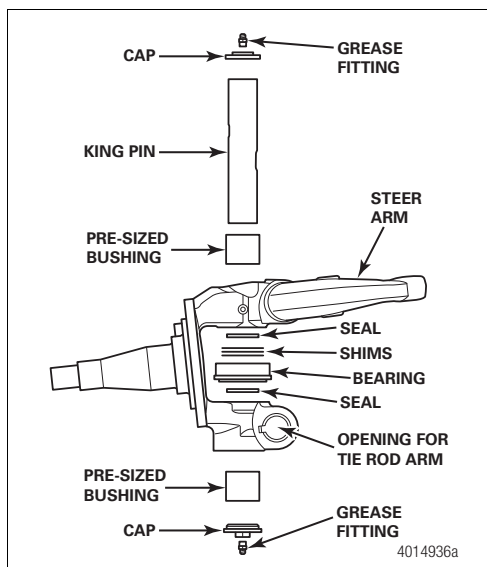
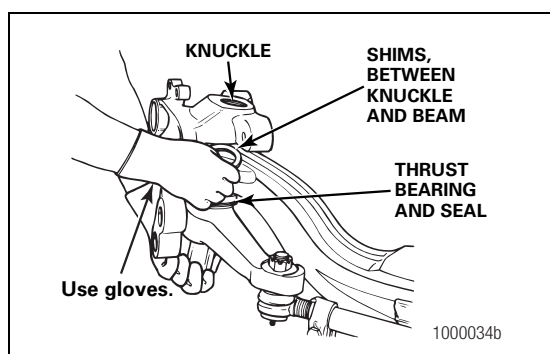

Figure 1
Figure 4
6. Reinstall the knuckle assembly to the axle with the new king pin and thrust bearing. Add shims until the fit is snug and the thrust bearing requires a slight tap to align with the king pin. Figure 1 and Figure 4.